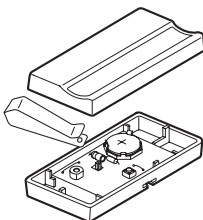

Figure 4
1. Pry open the front panel of receiver case with a coin or a screwdriver (*Figure 4*). Re-connect power to opener.